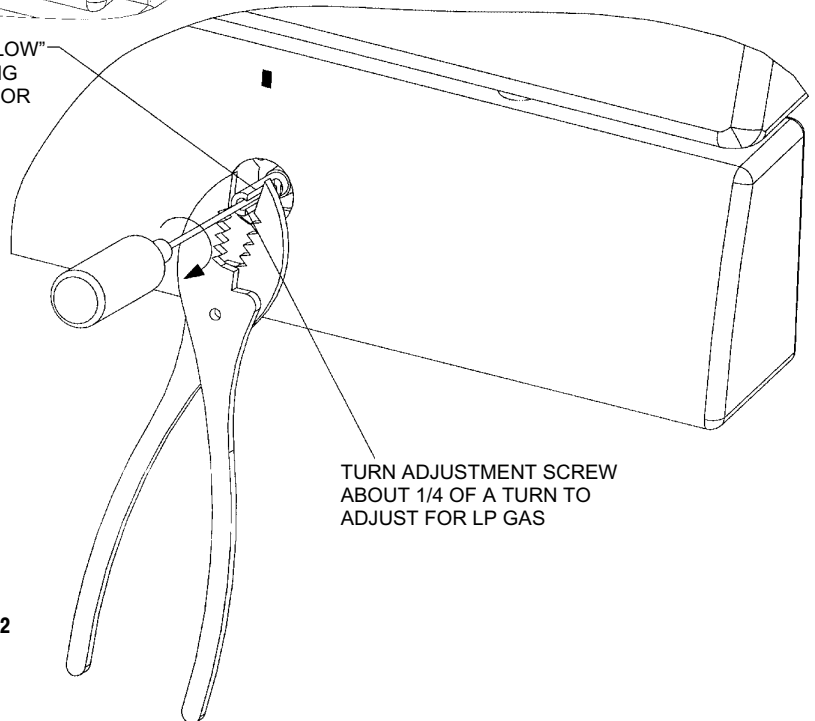

FIGURE 2
3. Using pliers, gently hold the valve stem in the low position. See figure 2.